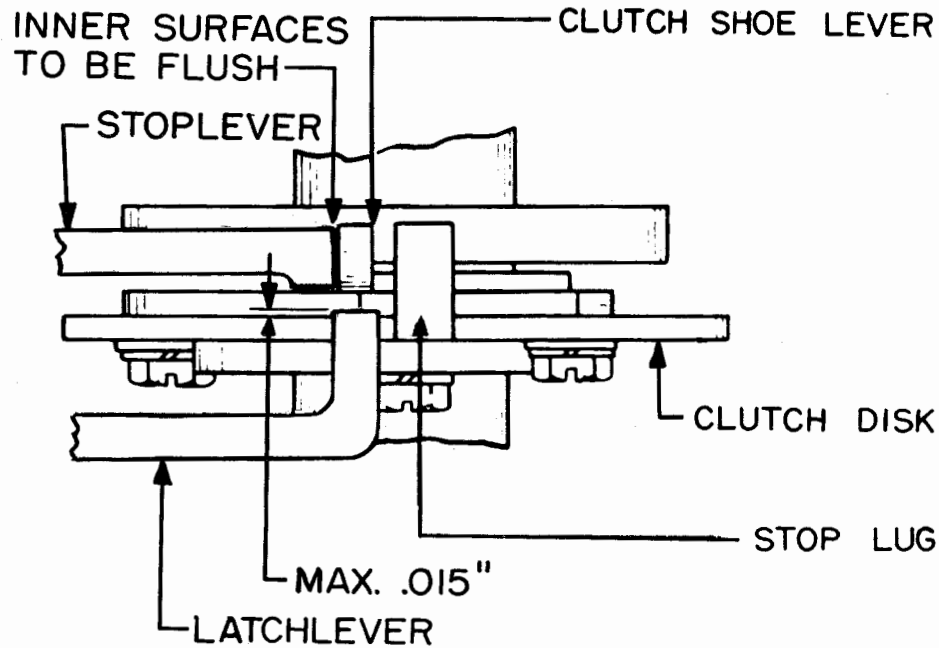

Figure 10
With the start magnet de-energized and the end of the clutch-shoe lever against the stoplever, the top of the stoplever shall be flush with the top of the clutch-shoe lever within 0.010 inch. See Figure 10 for location of parts. Make certain that there is some, not more than 0.004 inch, endplay between the pilot screws. Gauge by eye.
(b) On units with other than the TP104669 start magnet: With the clutch magnet de-energized and the stoplever not in contact with the clutch disc stop lug, it shall require minimum 1-1/2 ounces, maximum 2-1/4 ounces to start the stoplever moving when an 8-ounce scale is hooked over its right end. See Figure 10 for location of parts.
2.11 Latchlever Spring: With the latching edge of the clutch disc away from the latchlever (when used with the TP104669 start magnet) or with the latchlever on the low portion of the clutch disc (when used with other type magnets) hook an 8-ounce scale over the end of the latchlever and pull at a right angle to the lever. It shall require minimum 2 ounces, maximum 3 ounces to start the latchlever moving. See Figure 10 for location of parts.
2.12 Latchlever Stop: With the magnet de-energized and the brushes rotated 180 degrees from the stop position there shall be minimum 0.020, maximum 0.030 inch gap between the outer circumference of the clutch disc and the tip of the latchlever. See Figure 10 for the location of parts.
2.20 Stoplever Pilot Screws (On units equipped with other than TP104669 start magnet): With the clutch magnet de-energized, the top surface of the latchlever shall be flush to within 0.015 inch above the top surface of the disc, when the play in the latchlever is taken up in an upward direction. (See Figure 10.)
2.21 Armature Backstop (On units equipped with other than TP104669 start magnet): With the clutch magnet de-energized and the clutch disengaged, the inner surface of the stoplever and the inner surface of the clutch-shoe lever shall be approximately flush. (See Figure 10.)
(b) When the armature is resting against the magnet core and the stop-cam lug is opposite the end of the stoparm, there shall be minimum 0.004, maximum 0.012 inch clearance (1) between the end of the stoparm and the stop-cam lug for units equipped with friction clutch (Figure 12), and (2) between the stoplever and the clutch-shoe lever or the clutch disc stop lug, whichever is closest, at point of minimum clearance for units equipped with all-steel clutch. (See Figure 10 for location of parts.) Also, the magnet yoke ends shall be parallel to the armature face and shall not extend beyond the armature edges (Figures 11 and 12).